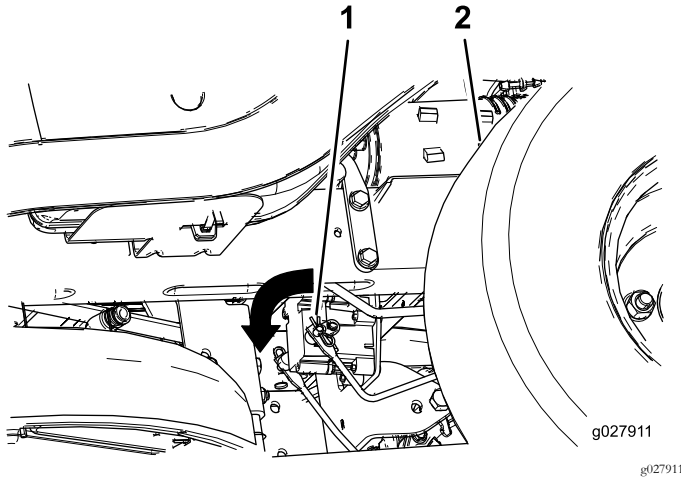

Figure 55
2. Locate the shaft on the electric brake where the brake link arms are connected (Figure 55).